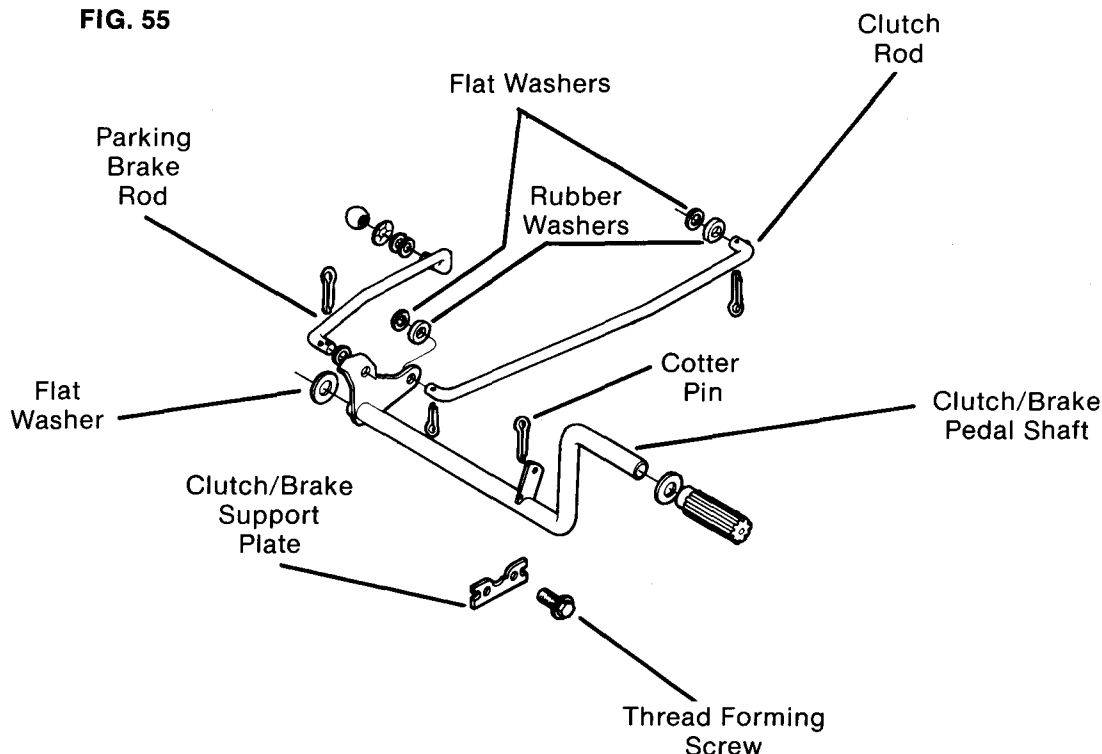

FIG. 56
- D. Remove cotter pin thru clutch/brake pedal shaft along left inside of main frame. (Fig. 56)
- E. Slide shaft to the left and remove flat washer on right end of shaft. Detach cotter pins and washers from parking brake and clutch rods and remove rods from shaft. (Fig. 56)
- F. Remove two thread forming screws holding clutch/brake support plate to left inside of main frame along with one capscrew and flange nut on lip of left main frame. Remove support plate. (Fig. 56)